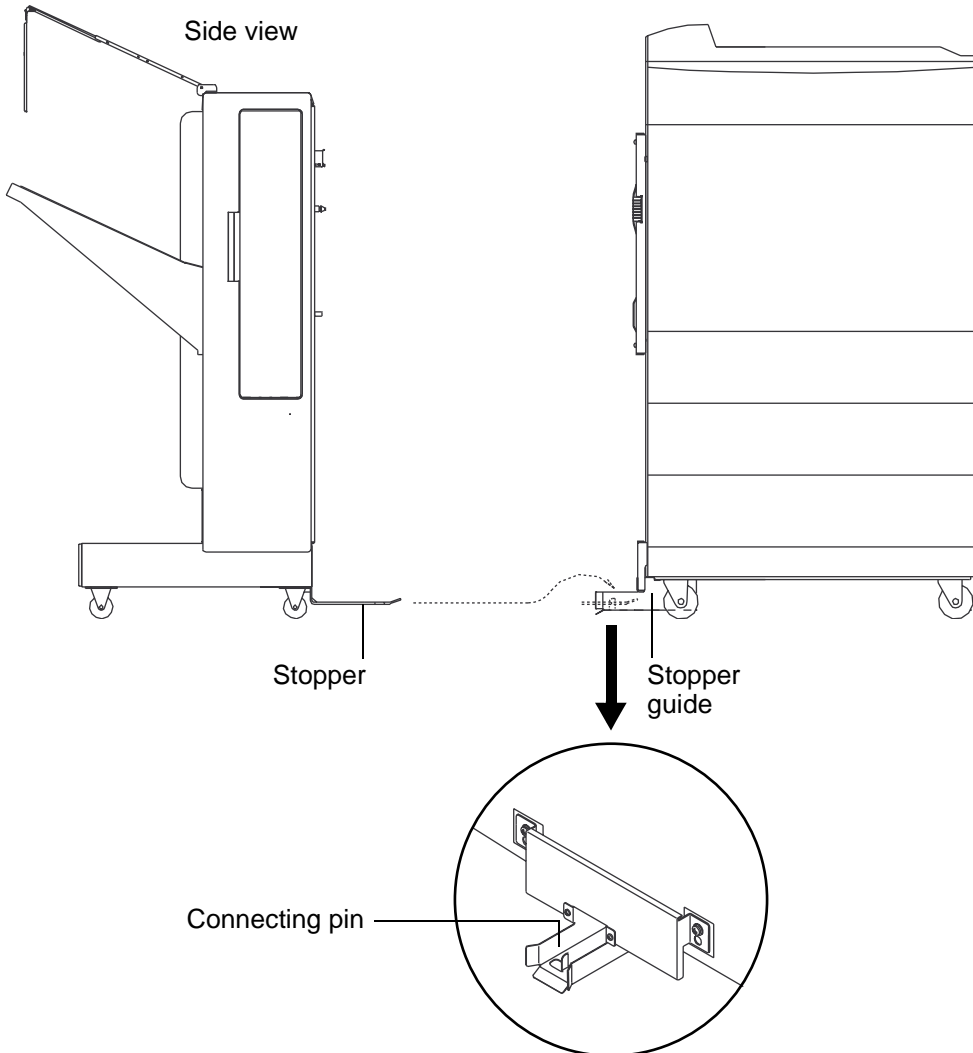

Figure 20 Aligning the stopper and stopper guide
Step 1 When connecting the HCO, lift the HCO a little to make sure the connecting pin on the stopper guide is aligned with the stopper hole on the HCO. See Figure 20.